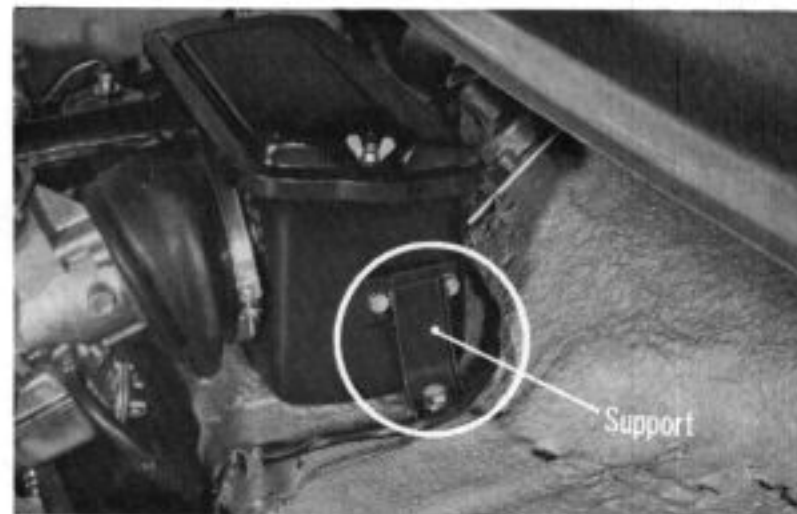

Fig. 14B-7
When removing the case, remove the bellows band, and separate it from the carburetor; remove the breather tube, and case mounting bolts. The case has a groove for the retainer spring. (Fig. 14B-6)
5. The 600 series air cleaner case will be modified as of 1969 for the purpose of reducing suction noise. Where as the current type is directly attached to the dashboard upper simply using a rubber washer, the new one will be installed with supporters as well as with a rubber washer. (Fig. 14B-7)